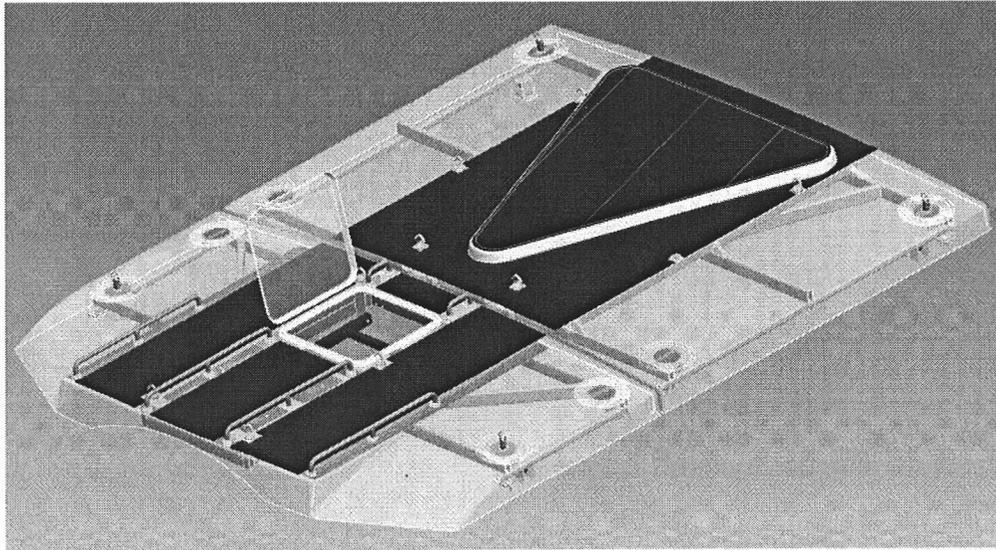

Fig. 84 Nacelle roof: crossing to the rotor hub
- Open the hatch in the nacelle and secure yourself at the yellow attachment points for personal protection on the roof, see Fig.84